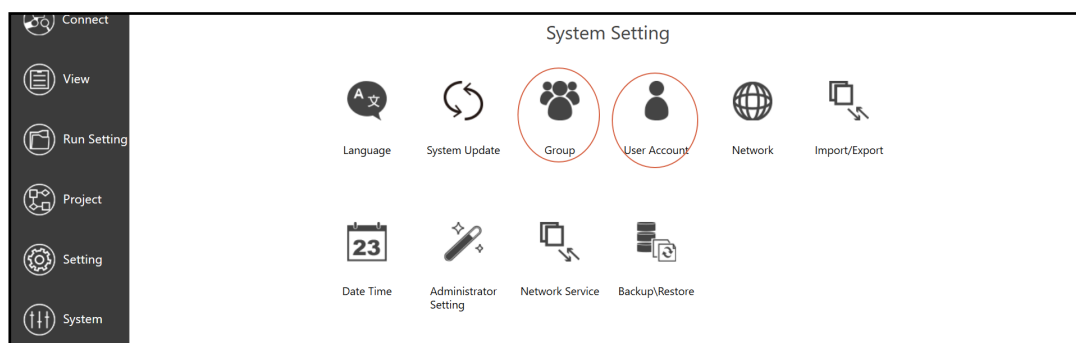

Figure 10.3 – System Settings > Group / User
7. Connect the bottom node of P2 to the top node of P1 to create a loop, such as in Figure 10.3.